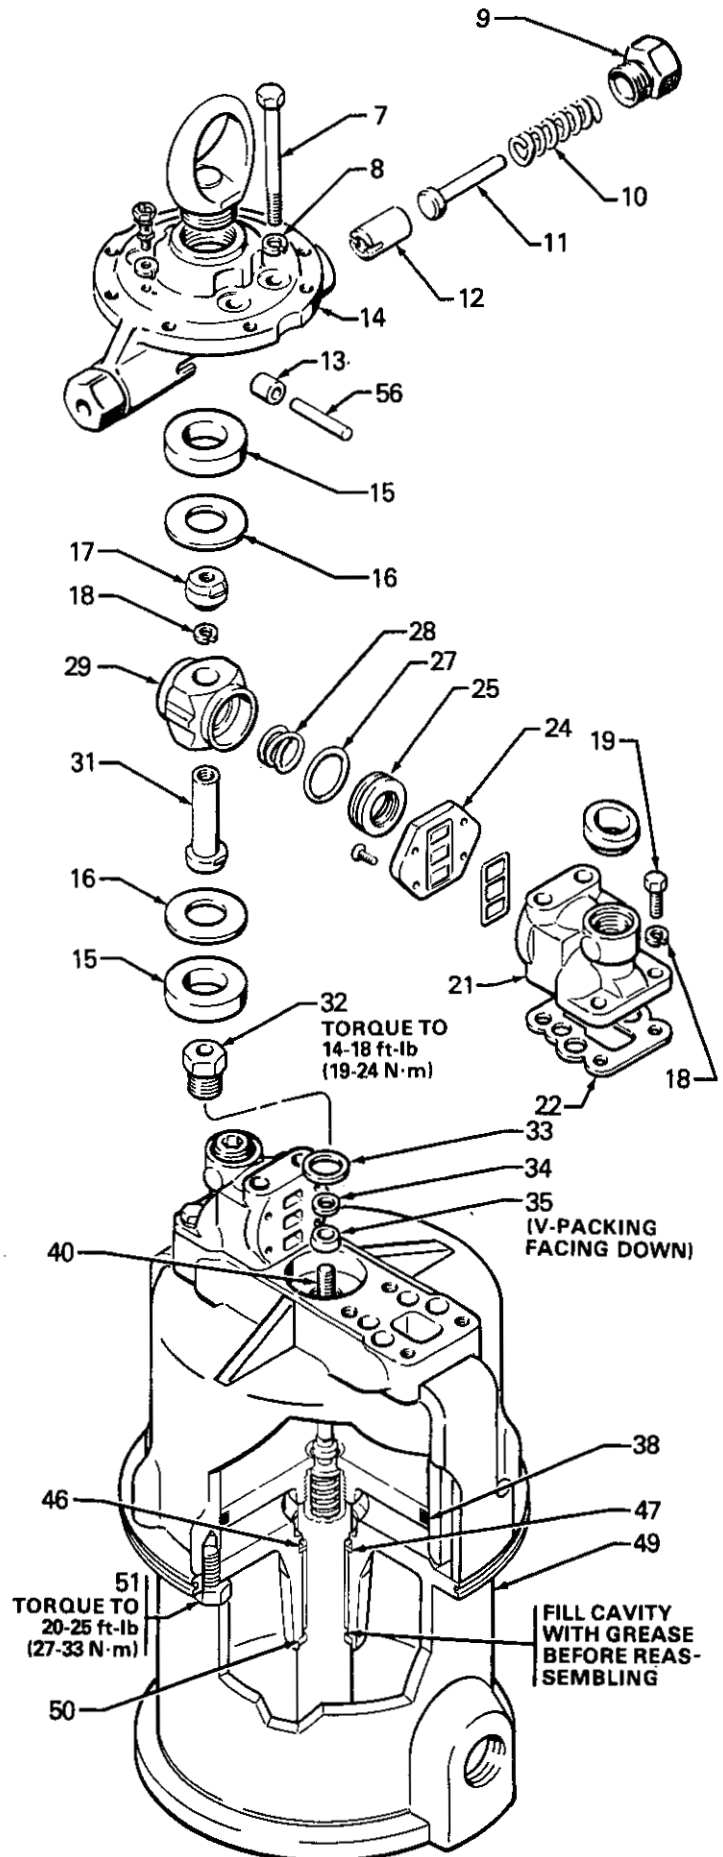

Fig 3
Refer to Fig 3. Remove the detent spring retainers (9), springs (10), guides (11) and plungers (12). Inspect the parts for wear or damage, and replace parts as necessary.